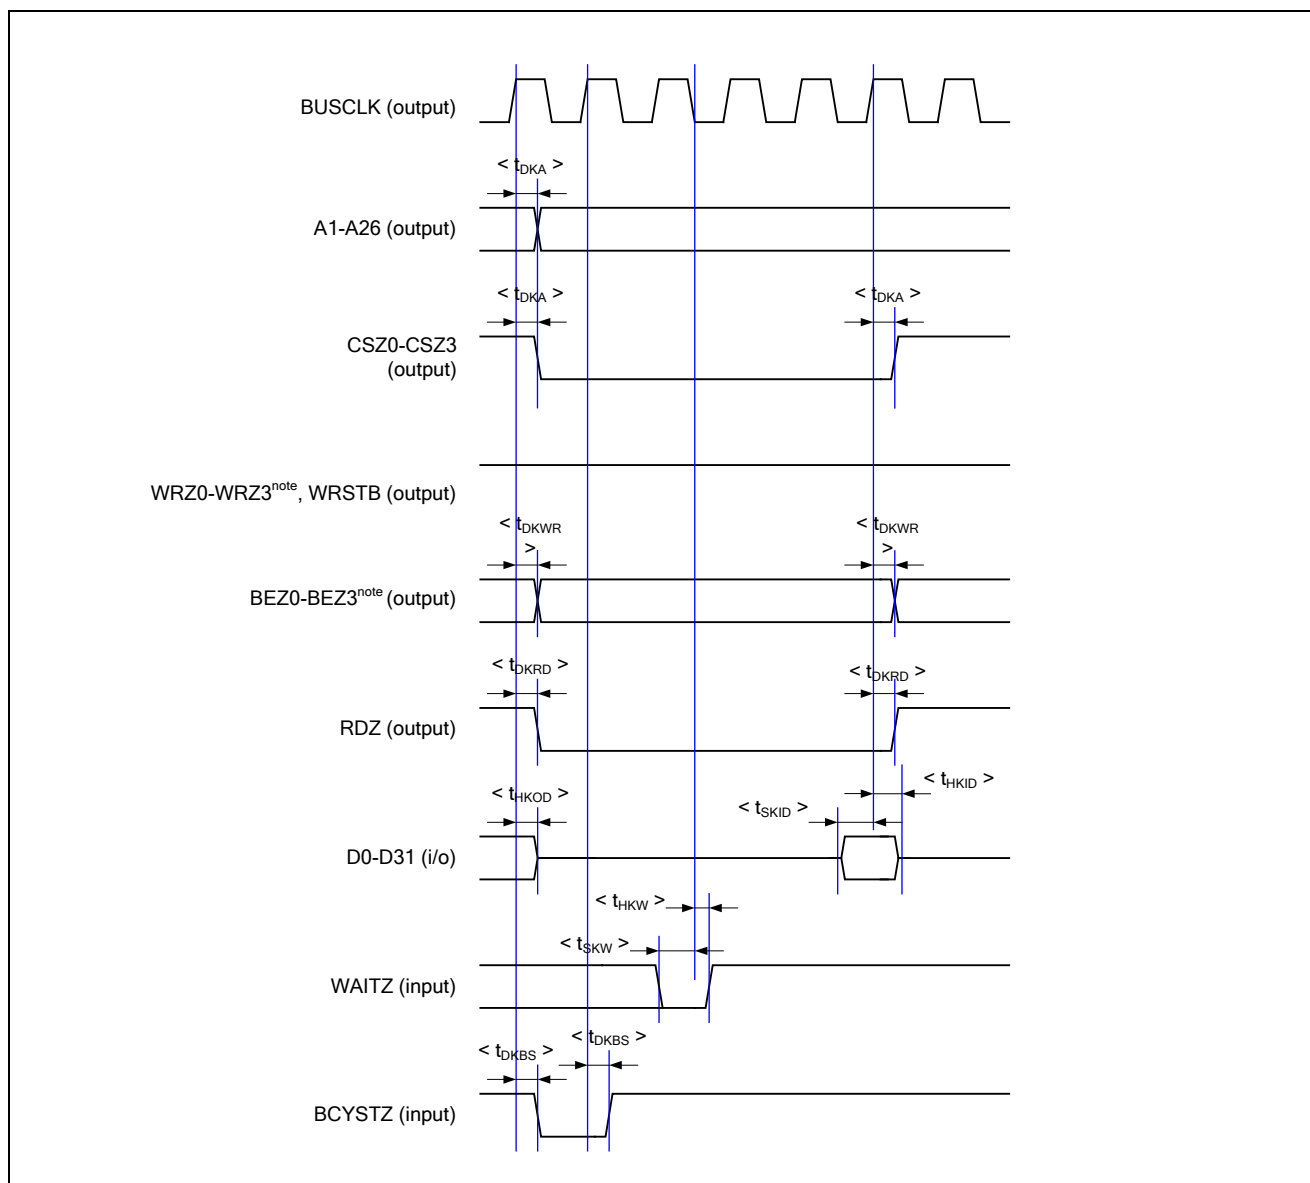

Figure 4.4 Memory controller read timing diagram (asynchronous memory)
**Remark.** The timing diagram in Figure 4.4 shows the case for when “Idle Wait”, “Write Recovery Wait”, and “Address Wait” are set to 0, and “Data Wait” is set to 3.